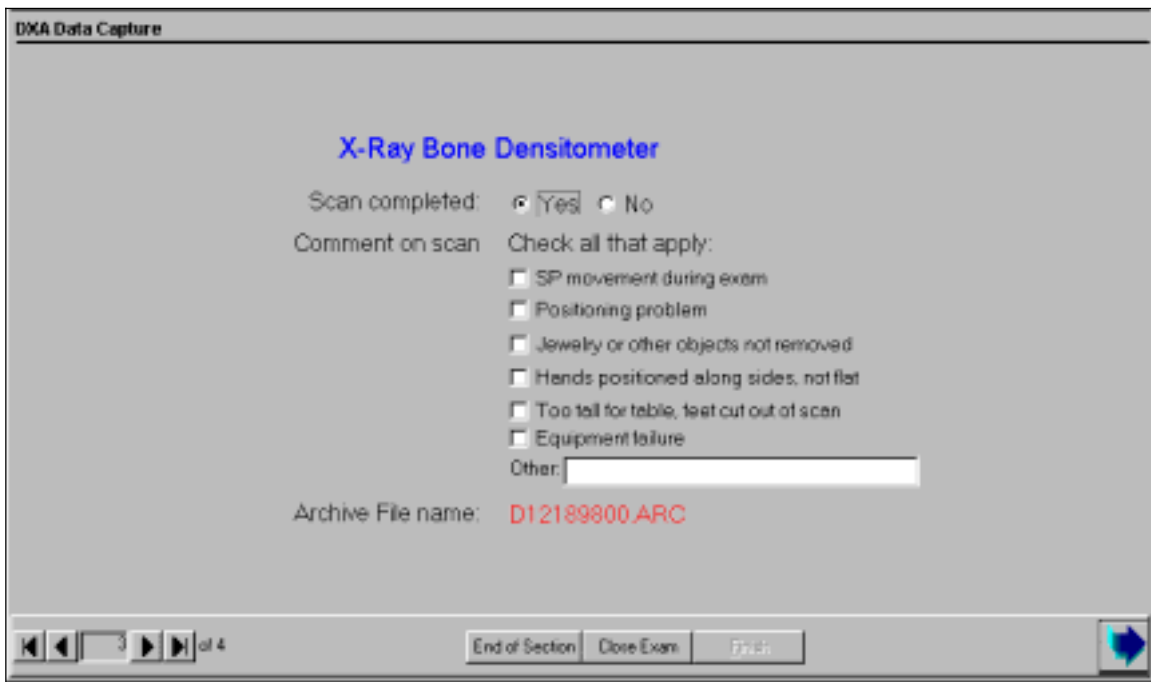

Figure 4-25. DXA data capture (2)
- The Archive number is D for DXA, 121898 for December 12, 1998, and 00 for the first file to be archived. The file extension is .ARC. See Figure 4-25.